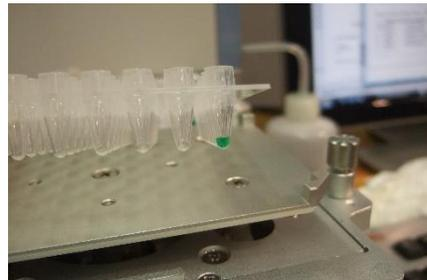

Figure 9-74 LLS Calibration Check with selected Plate Type
Step 3: Then with a manual pipette, dispense the same volume into the first well of the plate to test. If 10µL is selected, then there should be 10µL of liquid in that well. (Figure 9-74 LLS Calibration Check with selected Plate Type)